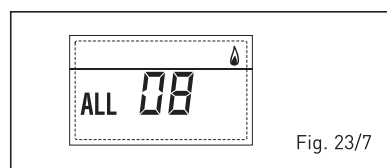

Fig. 23/7
- WATER CIRCULATION ANOMALY ALARM 09 (fig. 23/8)